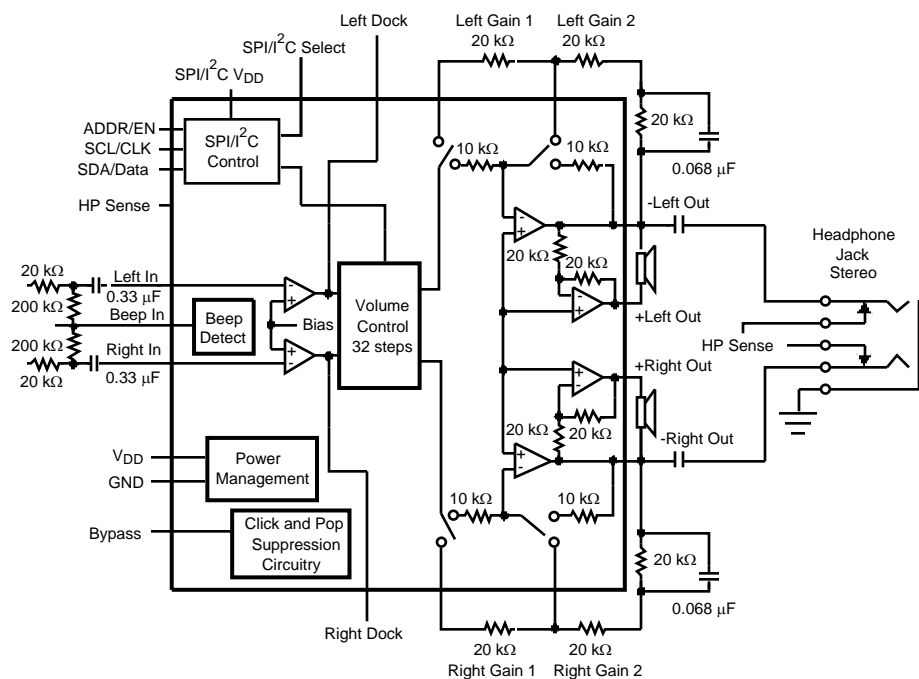

Figure 2. LM4936 Block Diagram
- (1) All voltages are measured with respect to the ground pins, unless otherwise specified. All specifications are tested using the typical application as shown in Figure 2.
- (2) *Absolute Maximum Ratings* indicate limits beyond which damage to the device may occur. *Operating Ratings* indicate conditions for which the device is functional, but do not ensure specific performance limits. *Electrical Characteristics* state DC and AC electrical specifications under particular test conditions which ensure specific performance limits. This assumes that the device is within the Operating Ratings. Specifications are not specified for parameters where no limit is given, however, the typical value is a good indication of device performance.
- (3) Typicals are measured at $25^\circ C$ and represent the parametric norm.
- (4) Limits are specified to Texas Instruments' AOQL (Average Outgoing Quality Level). Datasheet min/max specification limits are specified by design, test, or statistical analysis.
- (5) PCB design will affect Crosstalk performance.